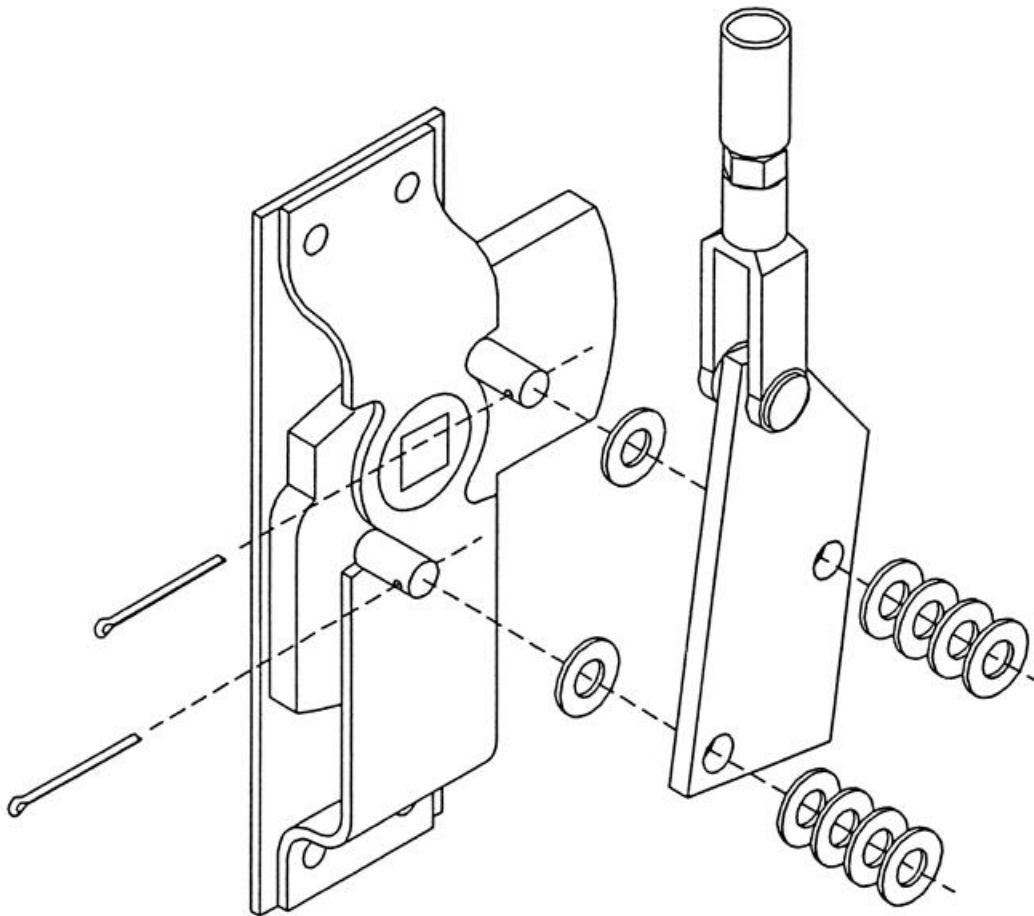

FIGURE 4
2. Remove two cotter pins which retain lower lever to center case and remove washers (see Figure 4). Disengage lower lever from center case. Do not drop cotter pins or washers in body end section.
2. Remove two cotter pins which retain lower lever to center case and remove washers (see Figure 4, page 6-6). Disengage lower lever from center case. Do not drop cotter pins or washers in body end section.